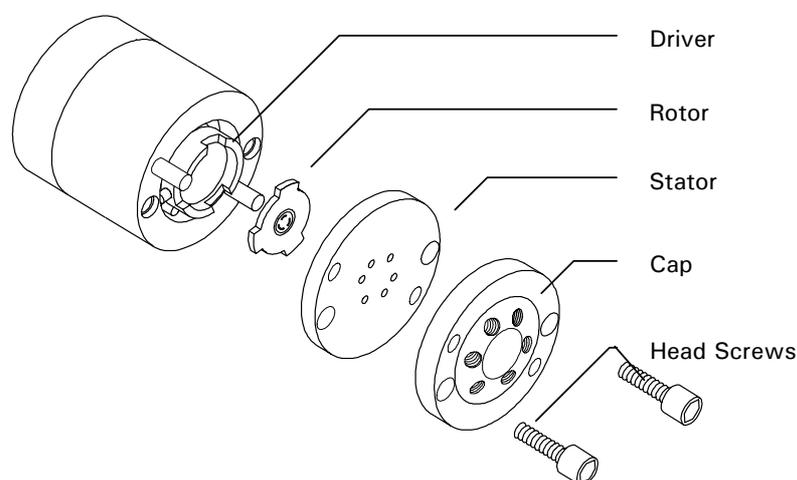

FIGURE 4-1 Exploded View of the Nano Valve
- a) Use a 9/64" hex driver to remove the socket head screws which secure the cap and stator to the valve body (FIGURE 4-1).
- c) With your fingers or a small tool, gently pry the rotor away from the driver (FIGURE 4-1).